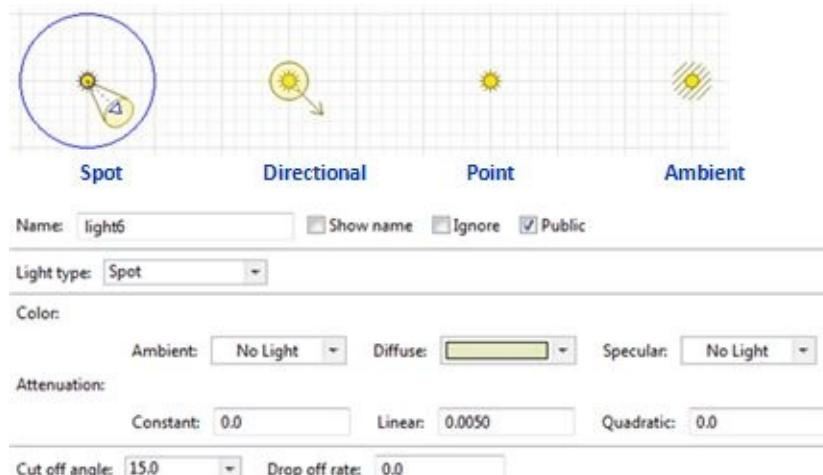

Figure 14.25 Light types and properties of a spot light
2. Use the **3D** palette to create a scene, as shown in Figure 14.25. Add some men in black suits (office workers from the **3D Objects** palette) to the corner of the building.